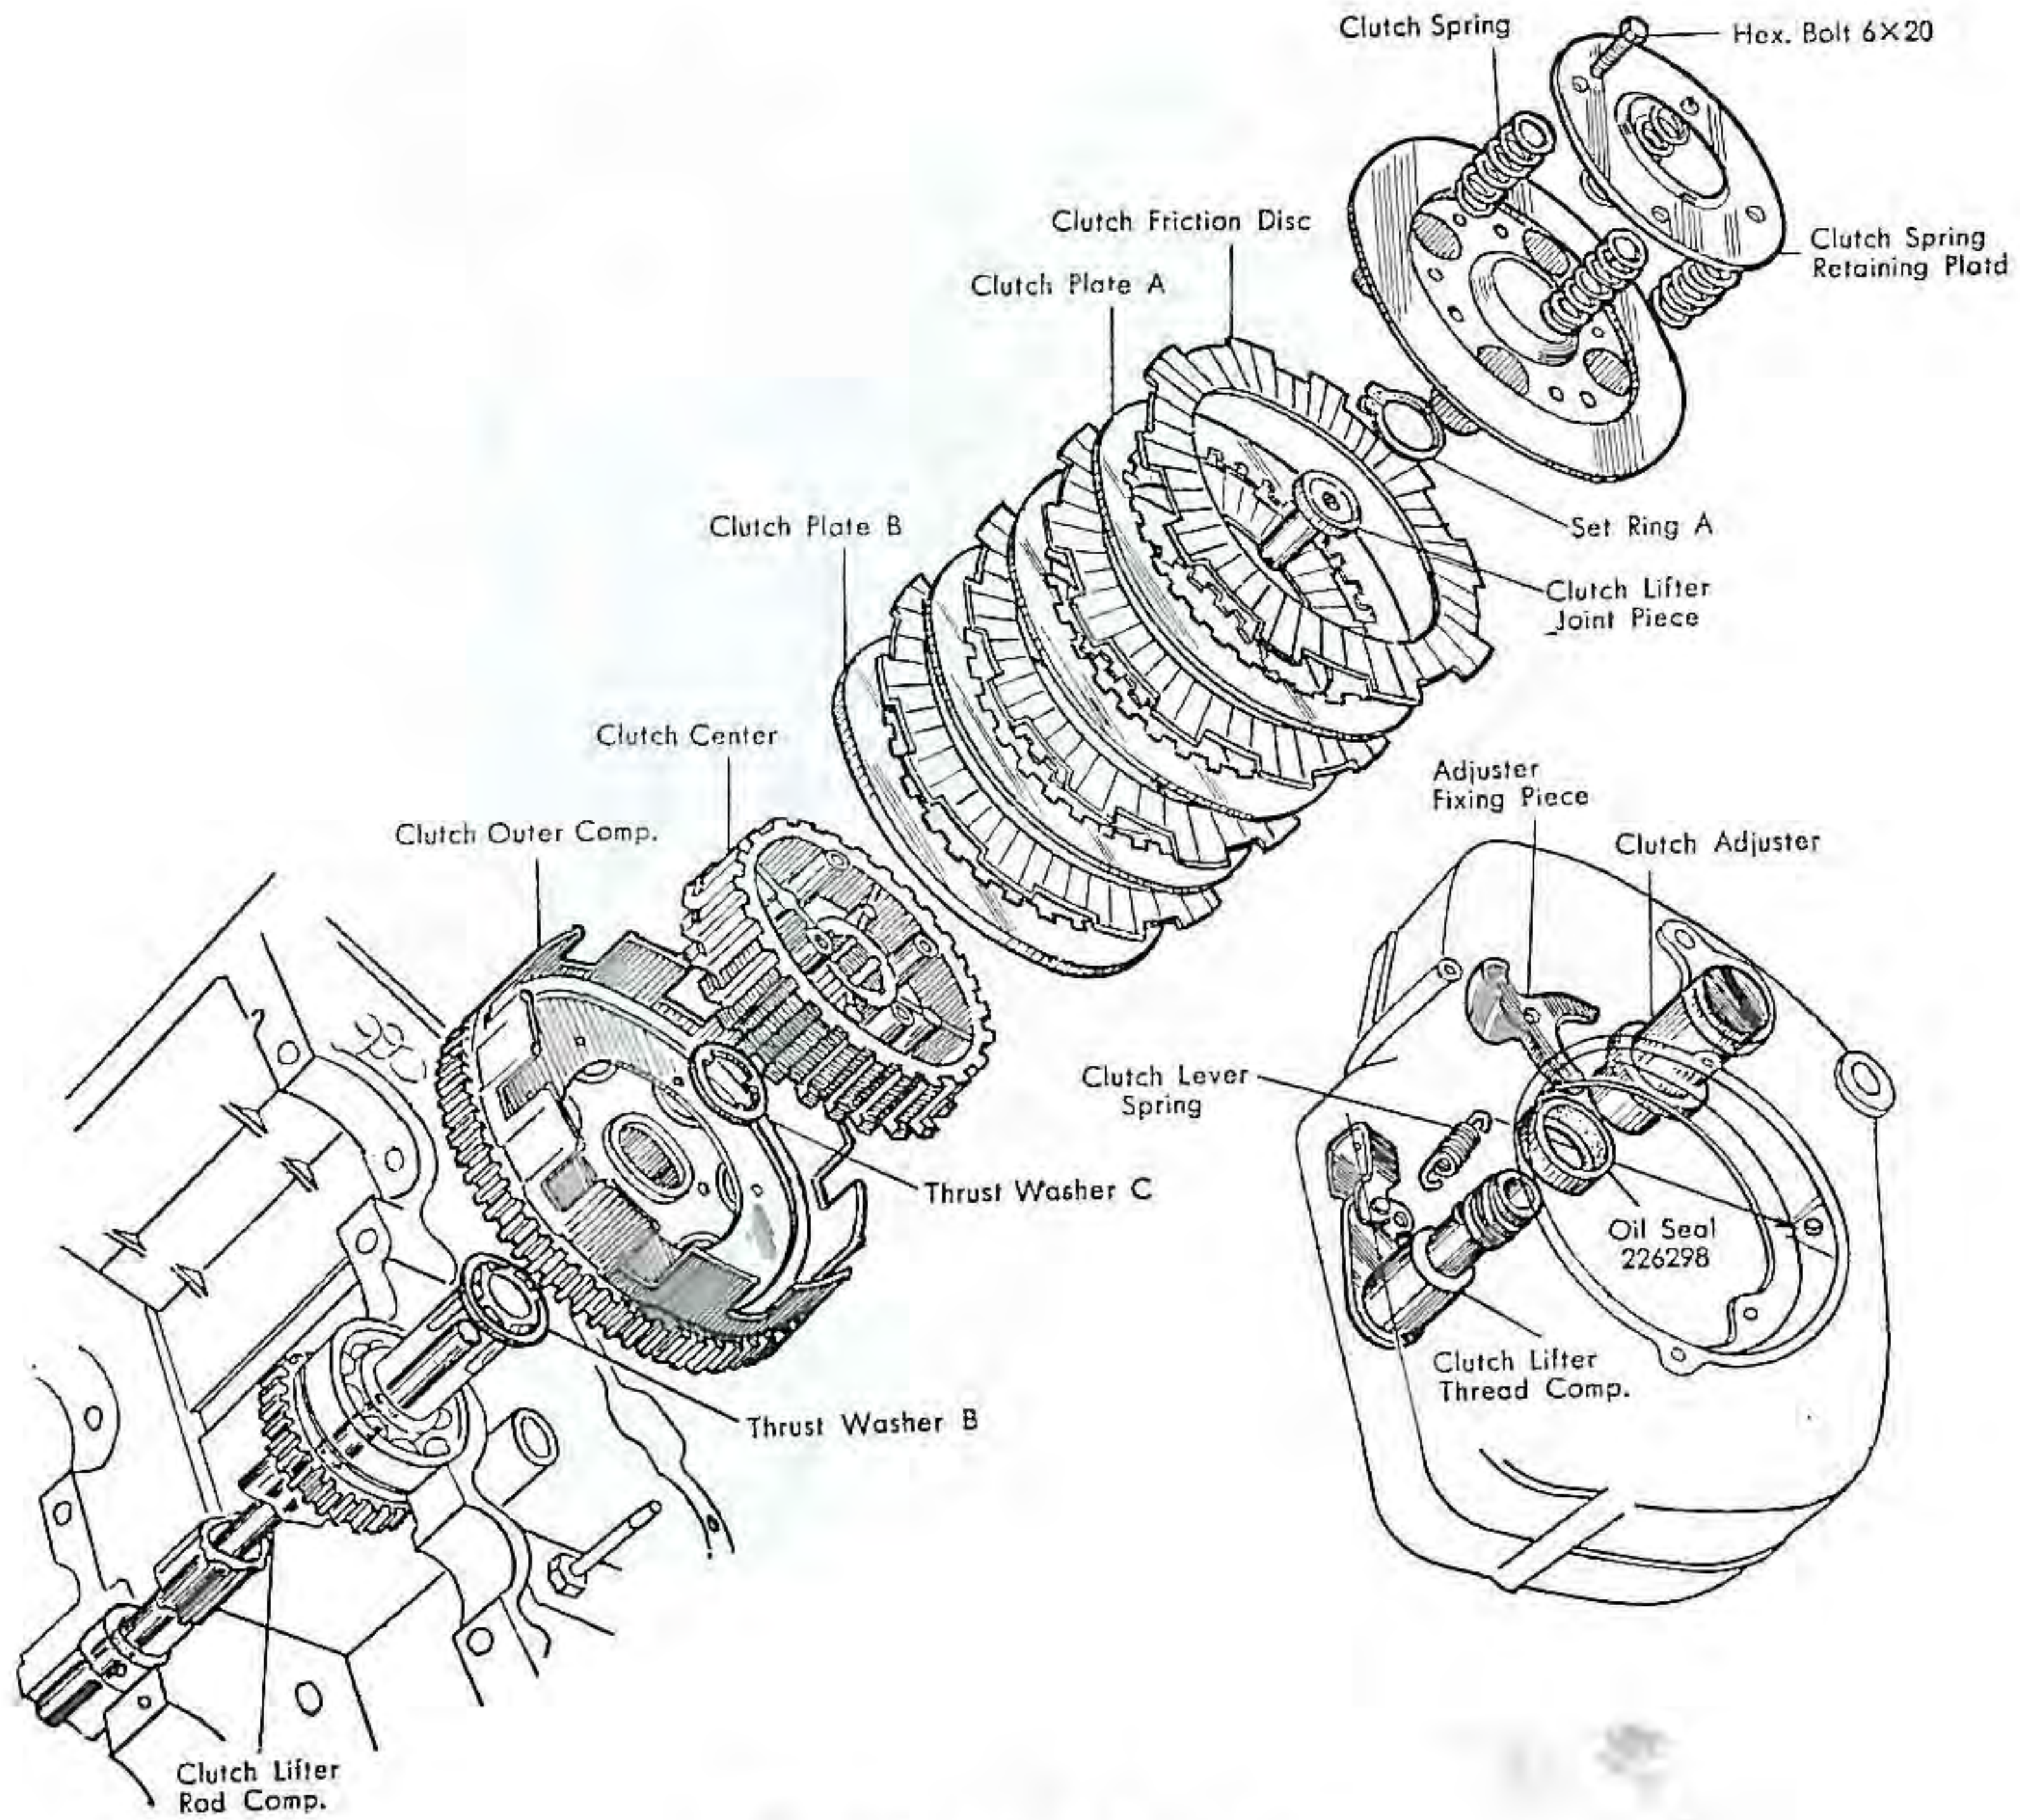

Fig. 79. Exploded view of clutch
- (11) Unscrew the clutch lifter thread complete from the adjuster. (Fig. 79)